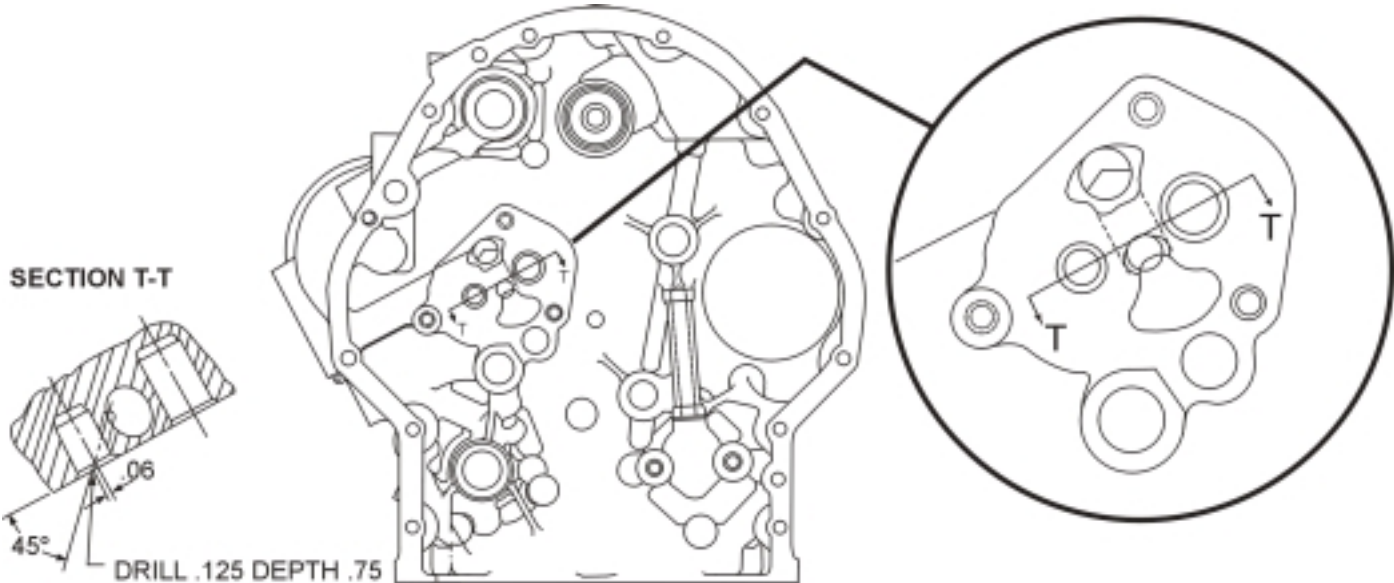

Figure 3. 4 Cylinder Dual Magneto, Reverse Rotation Models
1. Set up location of hole according to dimensions given in Figure 3 and proceed to drill passage with a $\frac{1}{8}$ inch (.125) drill setting depth at $\frac{3}{4}$ inch (.75) at a 45° angle to the surface of the oil pump mounting pad as shown in Figure 3.